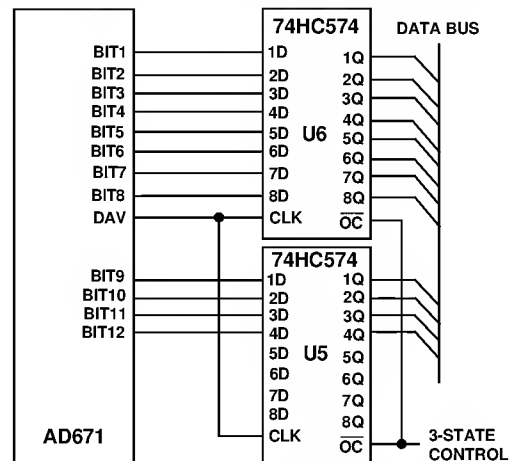
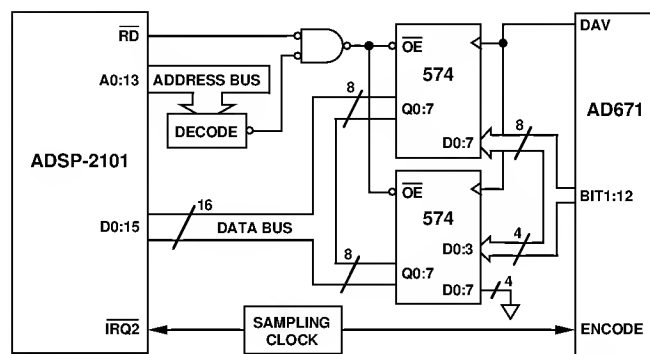

Figure 10. AD671 to Output Latches
Figure 20. AD671 to ADSP-2101/ADSP-2102 Interface
Figure 10 shows the AD671 connected to the 74HC574 Octal D-type edge triggered latches with 3-state outputs. The latch can drive highly capacitive loads (i.e., bus lines, I/O ports) while maintaining the data signal integrity. The maximum set-up and hold times of the 574 type latch must be less than 20 ns (t_{DD} and t_{SS} minimum). To satisfy the requirements of the 574 type latch the recommended logic families are HC, S, AS, ALS, F or BCT. New data from the AD671 is latched on the rising edge of the DAV (Pin 24) output pulse. Previous data can be latched by inverting the DAV output with a 7404 type inverter. See Figures 20, 21 and 22 for PCB layout recommendations.
Figure 20 is identical to the 2100A interface except the sampling clock is used to generate an interrupt (IRQ2) for the processor. Upon interrupt the ADSP-2101A starts a data memory read by providing an address on the Address (A) bus. The decode address generates \overline{OE} for the D-latches and the processor reads their output over the Data (D) bus. Reading the conversion result is thus completed within a single processor cycle.